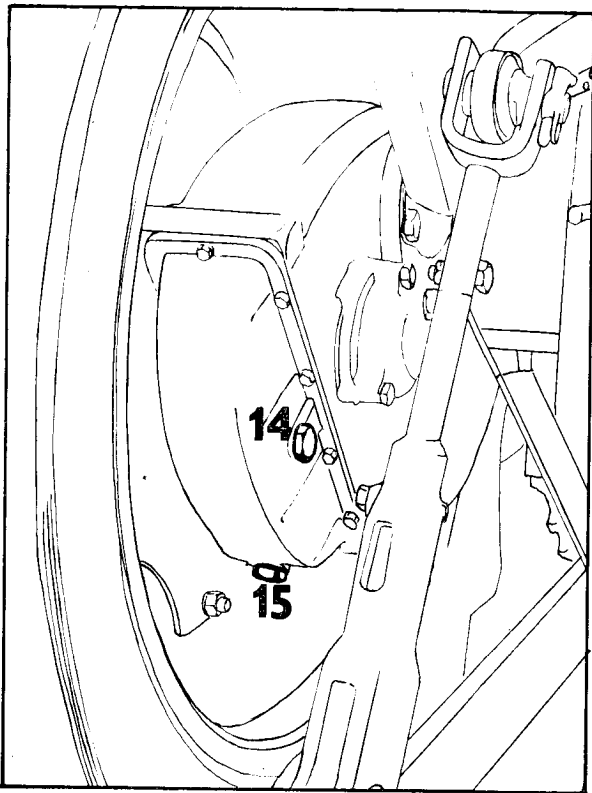

Fig. 9
14. Rear half-axle oil filling hole (Fig. 9/14).
15. Rear half-axle oil draining hole (Fig. 9/15).